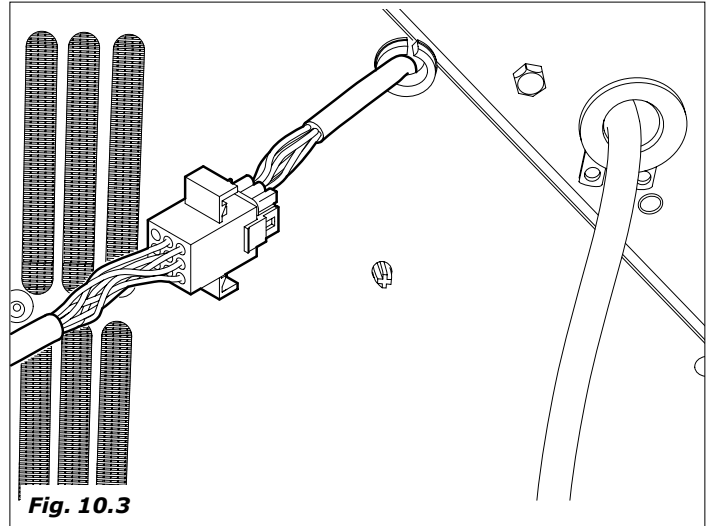

Fig. 10.3
- Connect the top part of the connection cable of the rear connector on the Lux 700 mode (Fig.10.3) and the other end to the BOARD connector on the Antares card (Fig. 10.4).